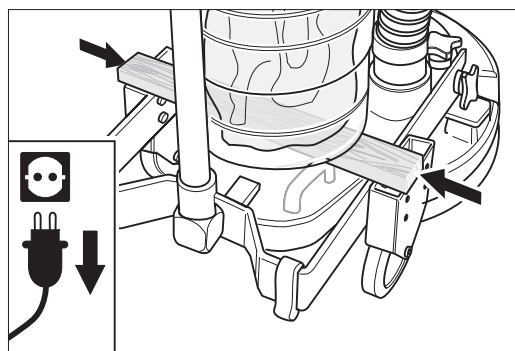

Fig. 26 Place a board between the closed dust bag box and the chassis.
- 5 Put a approx. 22 mm (7/8") board (e.g. piece of parquet flooring) between the closed dust bag box and the chassis to prevent the dust bag box from falling off when the top filter cover is removed (Fig. 26).